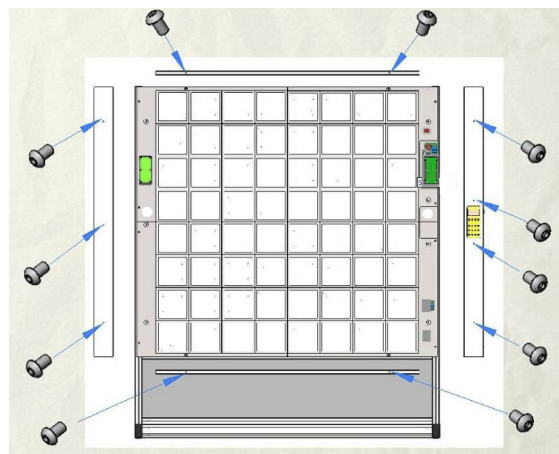

fig. 3.1-37
Step 28 Screw the lateral stainless steel frame covers **B1 and B2** and the upper / lower stainless steel frame cover **B3** respectively to the threaded bolts attached to the basic modules using the eleven (11) fillister head screws **M6x10** provided and the corresponding Allen key (**fig. 3.1-37**). Please remove the protection film before you assemble the frame cover.